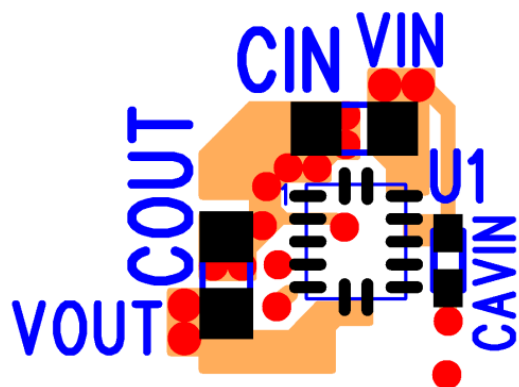

Figure 4: Top PCB Layer Critical Components and Copper for Minimum Footprint
Figures 4 and 5 show critical PCB top and bottom layer components and traces for a minimum-footprint recommended EP5348 layout with ENABLE tied to  $V_{IN}$ . Alternate ENABLE configurations need to be connected and routed according to specific customer application. This layout consists of four layers. For the other 2 layers and the exact dimensions, please see the Gerber files at [www.altera.com/enpirion](http://www.altera.com/enpirion). The recommendations given below are general guidelines. Customers may need to adjust these according to their own layout and manufacturing rules.
**Recommendation 5:** AVIN is the power supply for the small-signal control circuits. It should be connected to the input voltage at a quiet point. In Figure 4 this connection is made at the vias just before  $C_{IN}$ . There is an additional decoupling capacitor  $C_{AVIN}$  for AVIN which is connected between the device pin and the GND plane.
**Recommendation 7:** The top layer 1 metal under the device must not be more than shown in Figure 4. As with any switch-mode DC/DC converter, try not to run sensitive signal or control lines underneath the converter package on other layers.